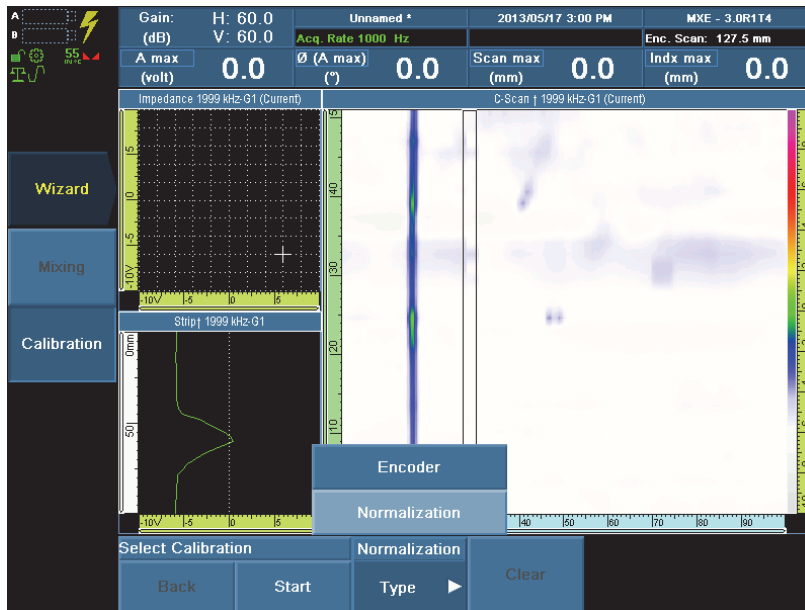

Figure 10-3 The Set Calibration step parameters
6. Position the selection cursors on the strongest signal (see Figure 10-3 on page 182). For more information, see section 12.2 on page 215.
The **Select Calibration** step allows you to configure the type of calibration to perform, and then to start the wizard (see Figure 10-3 on page 182).
The **Set Origin** step allows you to configure the origin of the predetermined distance that the probe will travel to calibrate the encoder (see Figure 10-3 on page 182).